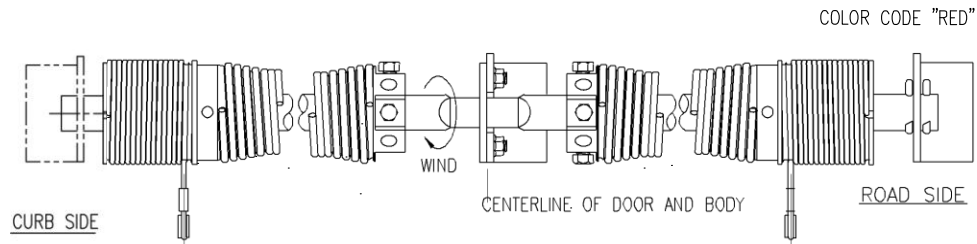

FIGURE 6
- a.) 3 mounting brackets are required, center, roadside* and curbside*. It is important that mounting surface is flush (in line) to all three locations. If necessary, install mounting plates of sufficient size on the header to serve as a base for the balancer brackets. **(SEE FIGURE 6)**
- b.) Locate center bracket at centerline of header. Position it so pointed tab is at top, angled section at bottom. **(SEE FIGURE 6)**